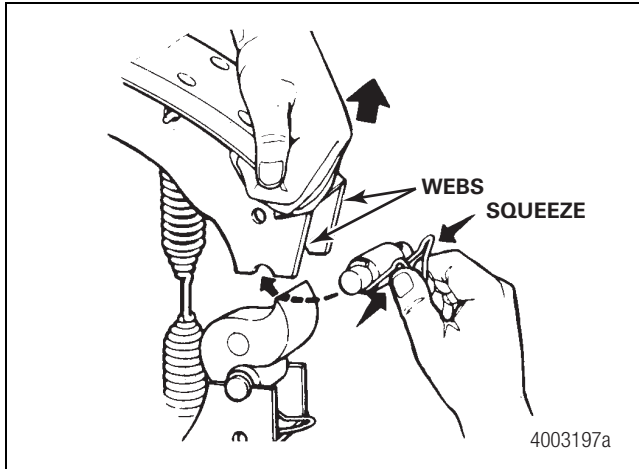

Figure 5.5
8. Pull each brake shoe away from the cam permitting enough space to install the cam rollers. Press the ears of the roller retainer clip together to fit the retainer between the brake shoe webs. Figure 5.5.